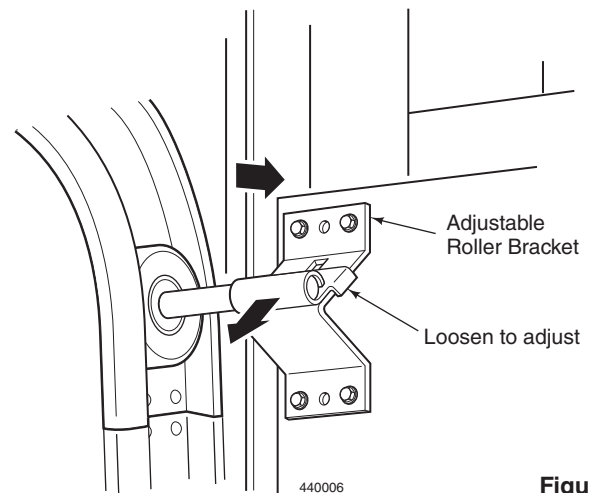

Figure 32
2. The gasket compression can be altered at the Adjustable Roller Brackets (the top Roller Bracket). Loosen the nut in the adjustable portion of the top Roller Bracket. Slide the adjustable portion down and away from the Door while pushing the Door section snug to the top Gasket Header. When the gasket is properly compressed, tighten the top nut. See Figure 32.